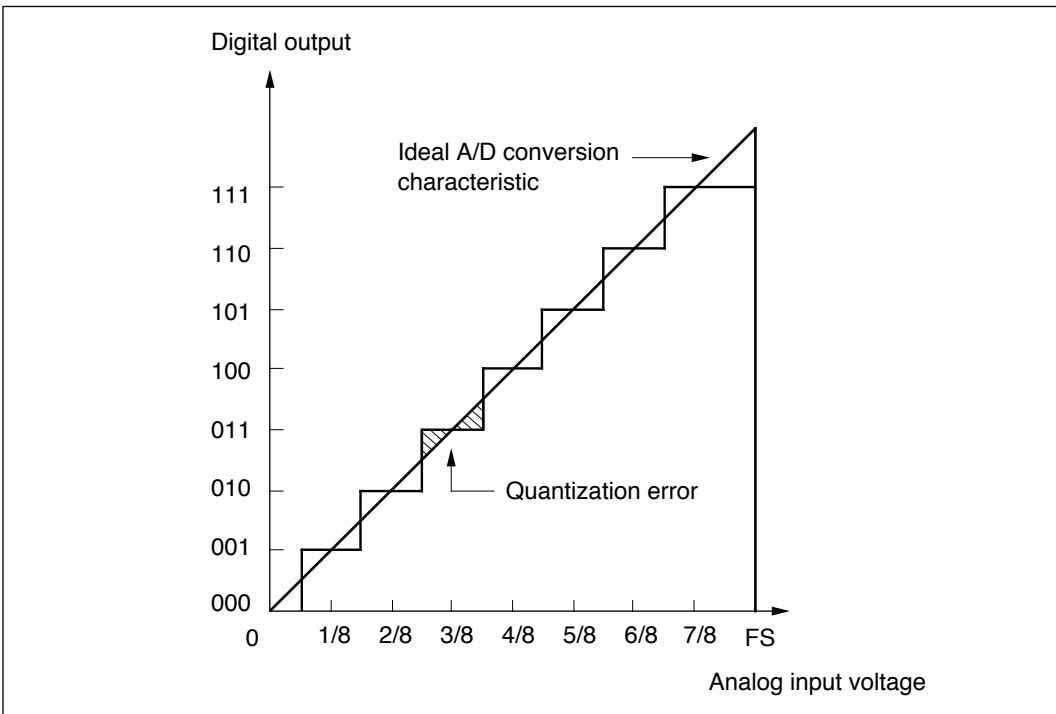

Figure 13-11 A/D Converter Accuracy Definitions (1)
- Quantization error: intrinsic error of the A/D converter; 0.5LSB (figure 13-11)